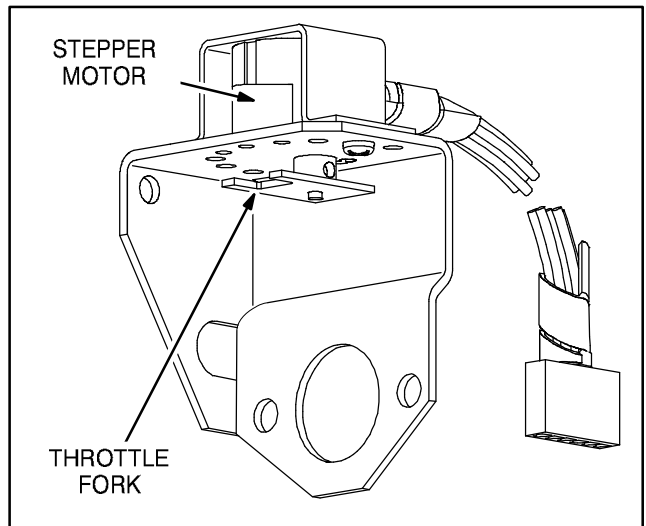

FIGURE 12. STEPPER MOTOR (GCAA)
**Model GCAA:** The stepper motor lever fork (Figure 12) directly engages the throttle lever.